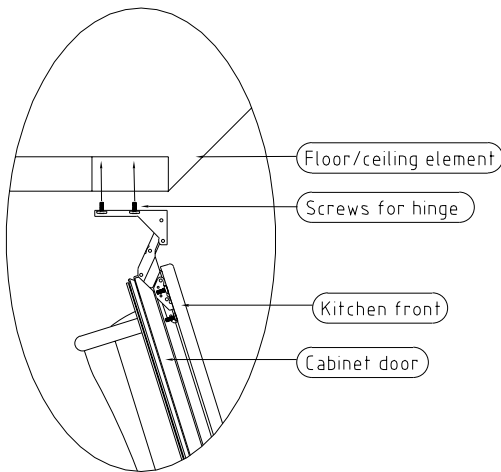

Fig 5
#### 4. Fitting furniture fronts [see figures 5, 6 and 7]
3. Cabinet door. Remove hinge retaining screws in floor and ceiling on side selected for hinges using Allen key supplied. Open hinges fitted on fridge door. Hold door open, while inserting hinge screws through holes in hinges. Finger tighten (do not tighten fully) screws in floor and ceiling – see fig. 5. **NOTE: If working alone, place a support under fridge door at correct height for hinges. Allow door to rest on this while screwing hinges into place.**